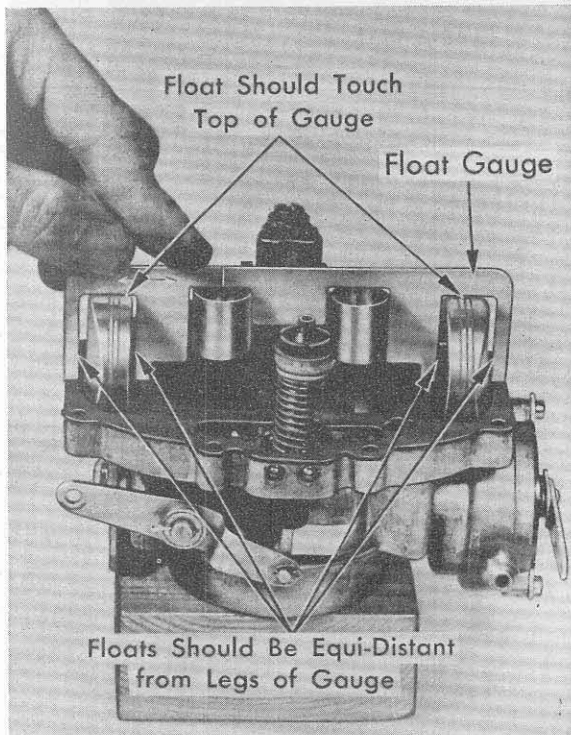

Figure 11
2. Place Float Gauge in position as shown, (Figure 11) with locating tangs inserted into the secondary venturi to position gauge.